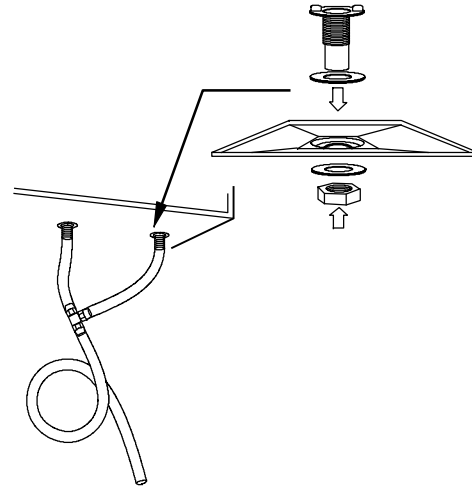

Fig. 8 - Condensate Drain With Loop Trap (HRV Only)
1. Punch out holes in foam insulation and door, then insert sleeved grommets into bottom of unit using the gasket washer and nut. See Fig. 8.
4. Make a loop in the tubing below the “T” connector to create a trap to prevent sewer gases from entering the ventilation system. See Fig. 8.